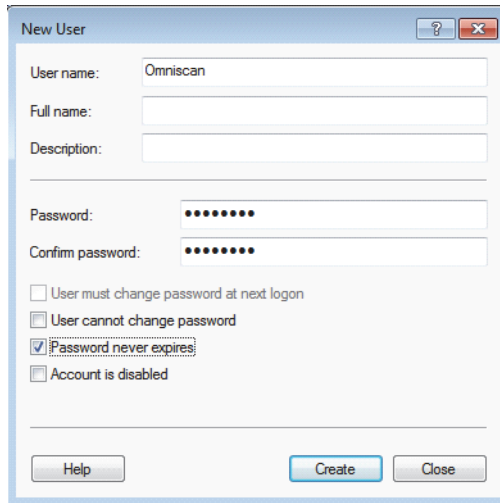

Figure 7-26 The New User dialog box (Windows 7)
5. In the **User name** box of the **New User** dialog box, type **Omniscan**, respecting the case of the letters (see Figure 7-26 on page 216).